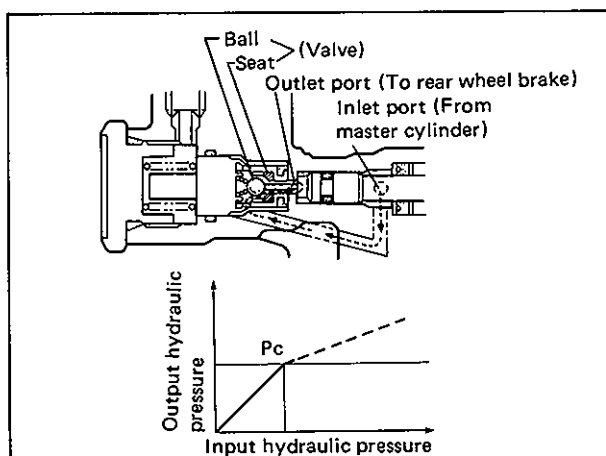

Fig. 5-20-3
1) Operation from the inoperative state till the input hydraulic pressure (fluid pressure from the master cylinder) reaches the bend point  $P_c$  in the graph as shown in Fig. 5-20-3: